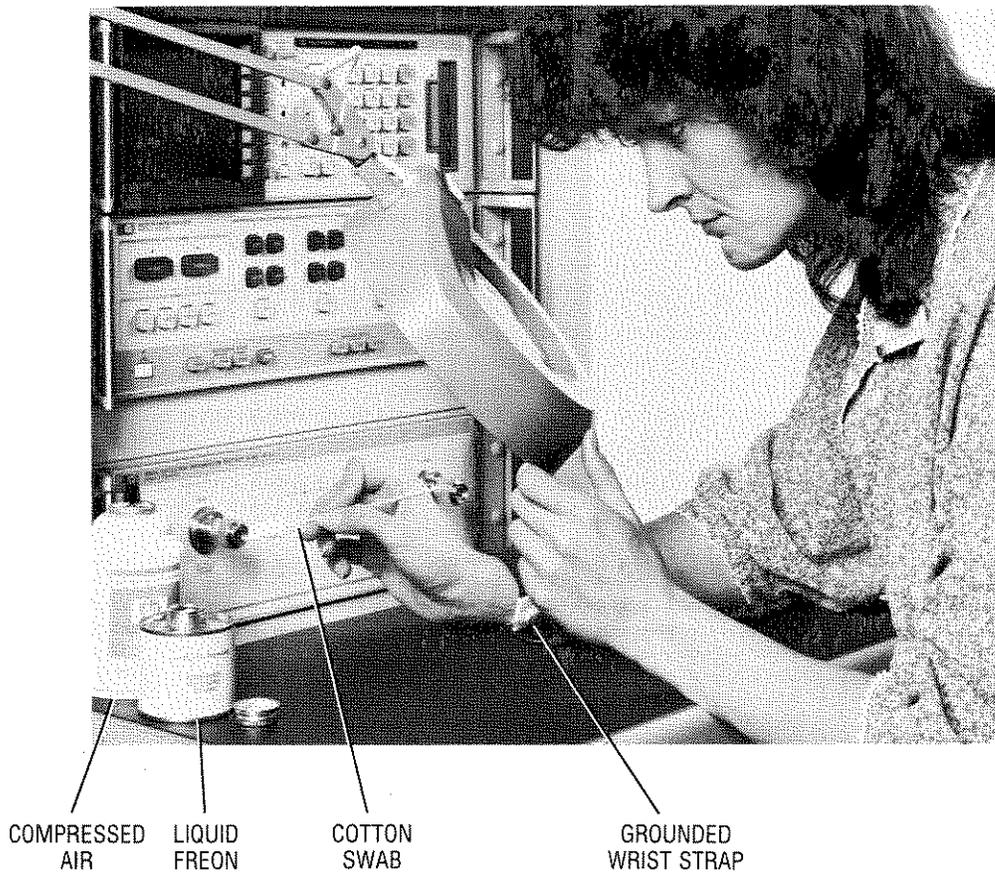

Figure 4. Cleaning Microwave Connectors
**Cleaning Connectors on Static-Sensitive Devices.** Cleaning connectors attached to static-sensitive circuits, test set connectors for example, requires special care to avoid static discharge. When cleaning such connectors (Figure 4), always wear a grounded wrist strap and before touching the connector itself (even with a plastic swab) discharge static electricity to ground. This is easily done by grasping the outer shell of the test port briefly. These precautions will prevent electrostatic discharge (ESD) and possible circuit damage.